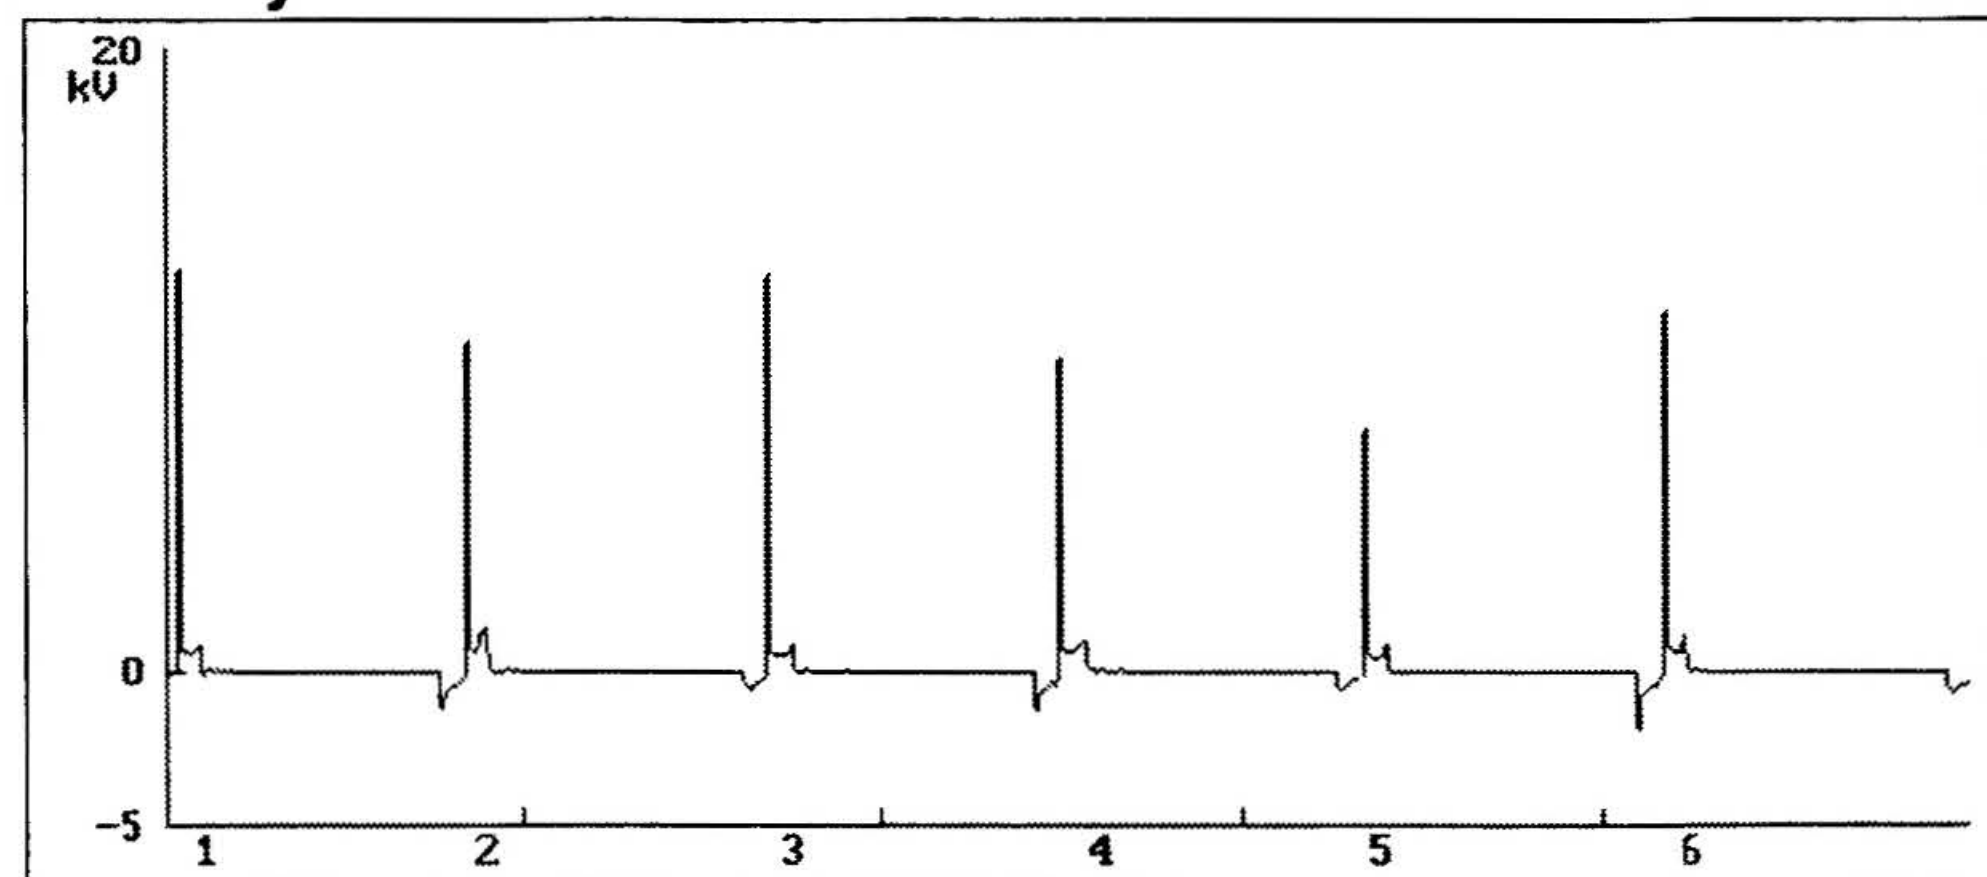
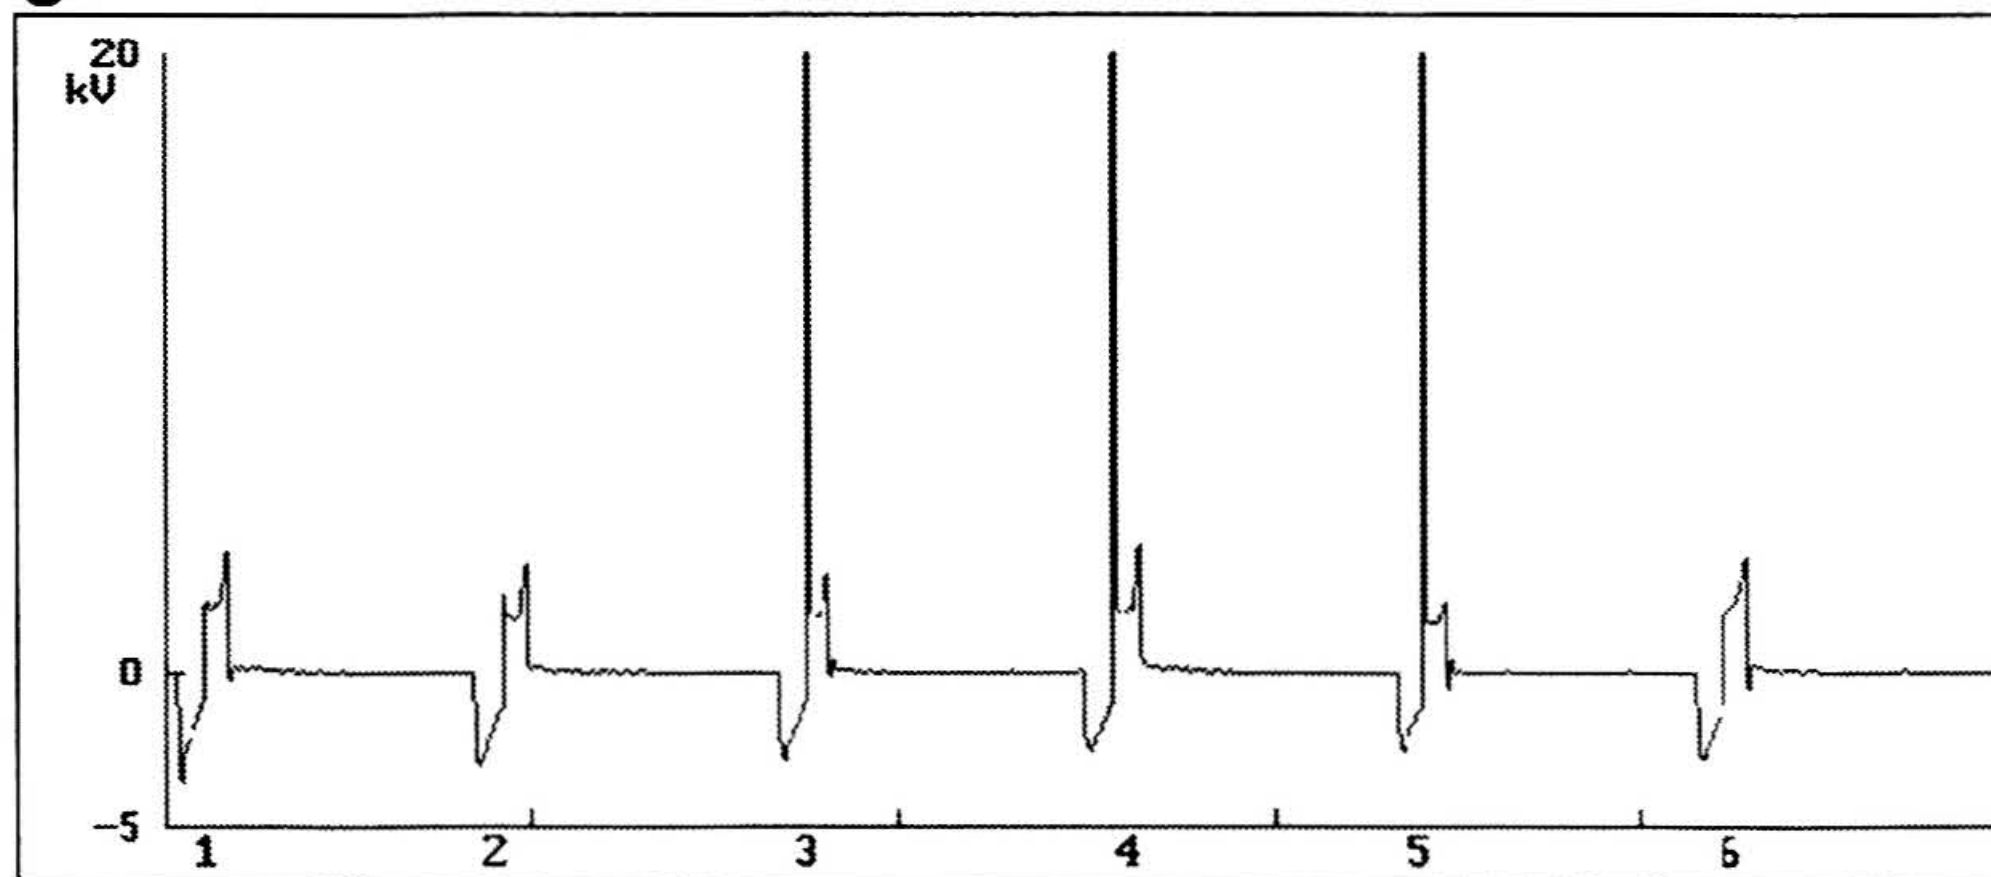
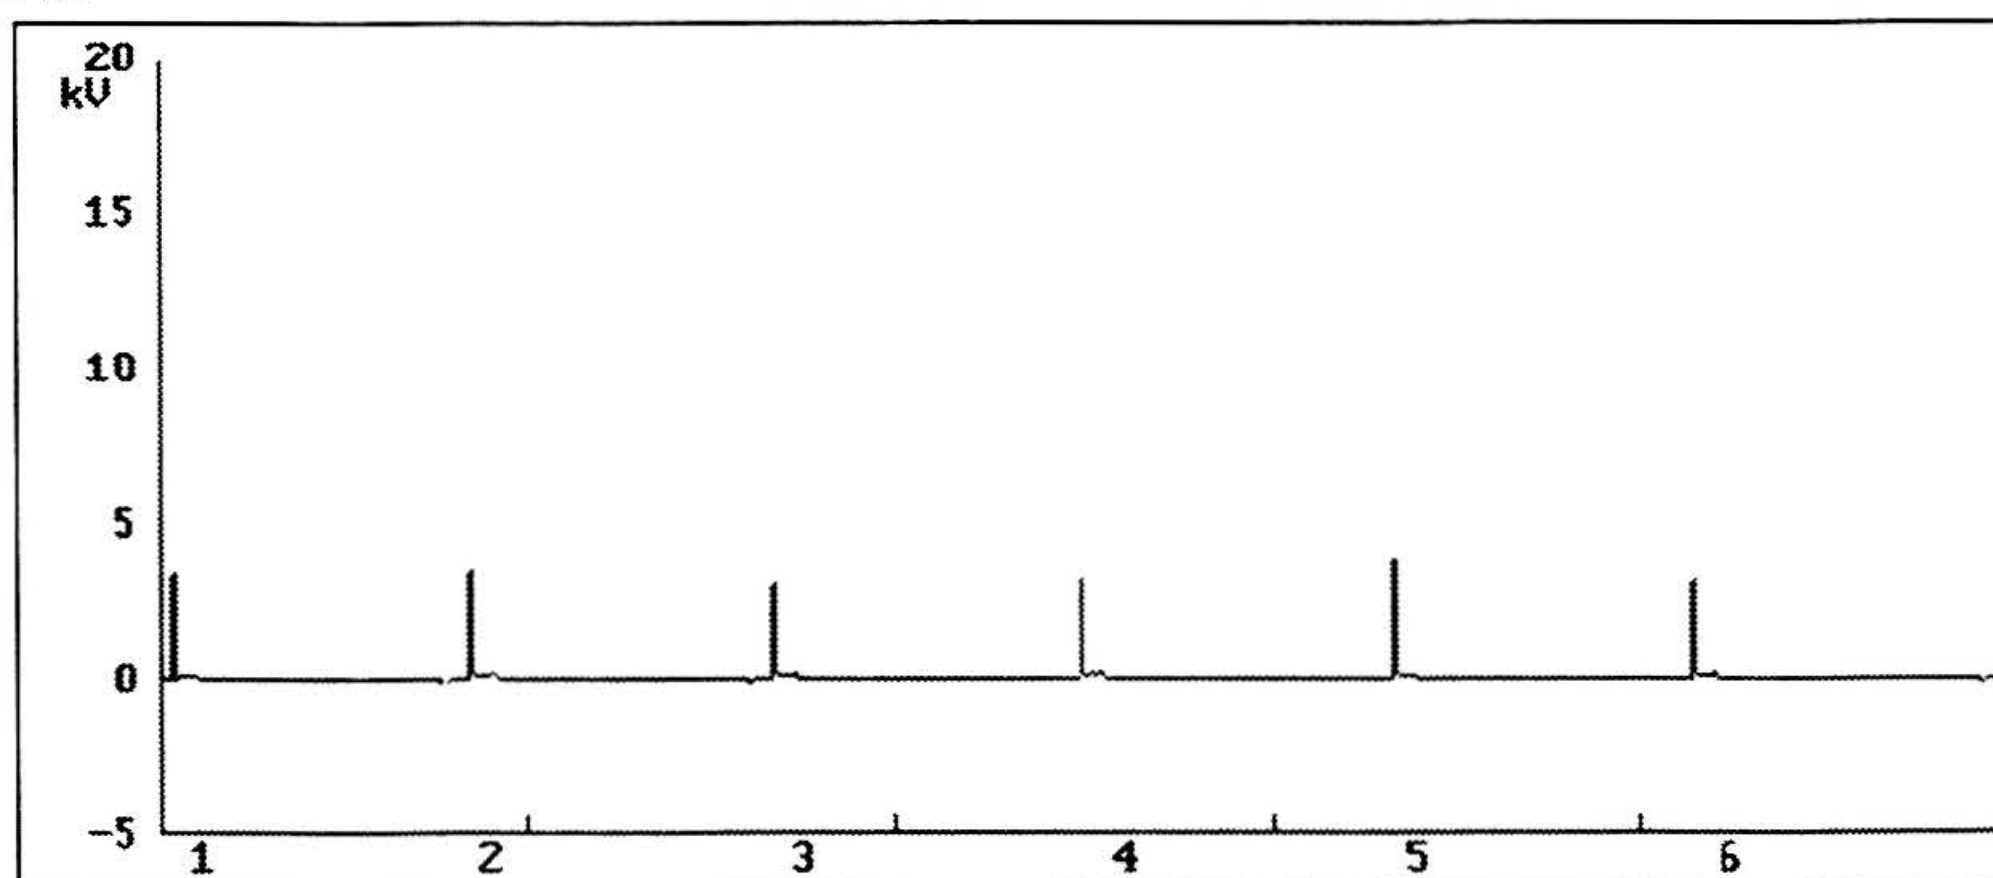

Figure 6: Gain Set Correctly
Figure 7: Gain Set Too High
Figure 8: Gain Set Too Low
- ✓ Refer to *Figure 6*, *Figure 7* and *Figure 8* for gain setting examples.